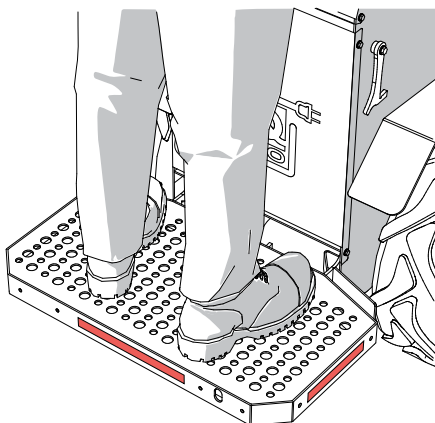

Figure 7. Standing on Platform
2. Stand on the platform with both feet (Figure 7).